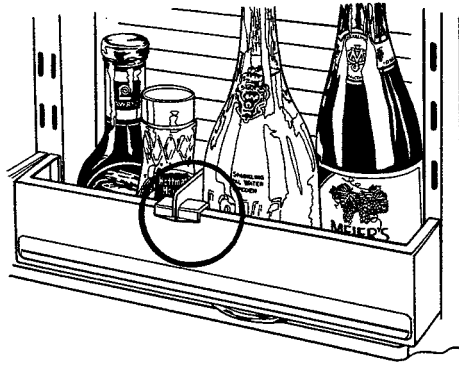

Figure 13.
- Hook hugger over edge of door shelf. See Figure 13.